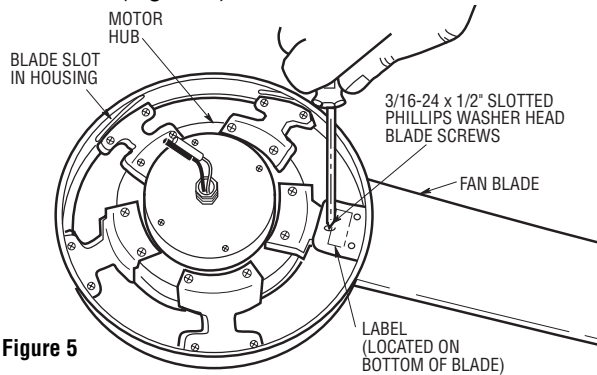

Figure 5
- 8. To ensure proper blade assembly, make sure the label on the blades are facing the bottom of the ceiling fan. Slide blade through center slot in fan housing. Mount blade to fan housing using three 3/16-24 x 1/2" slotted Phillips washer head blade screws (Figure 5).